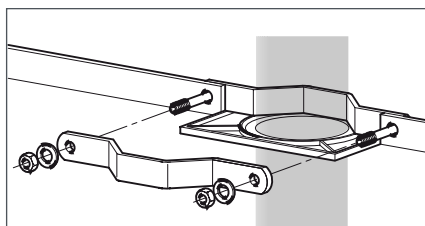
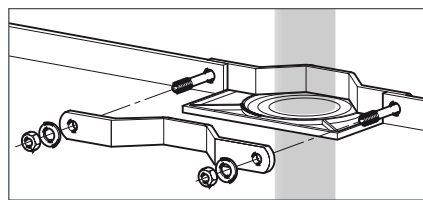

Figure 65
Figure 66
- Fasten high-voltage cable to the base plates using clamping assemblies (Figure 65 and Figure 66).
- Screw-fasten the earthing screens (2) of the cables to the earthing bar (3) of the panel.